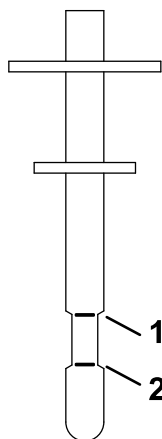

Figure 71
7. Place the dipstick into the filler neck, remove it, and check the fluid level (Figure 71).